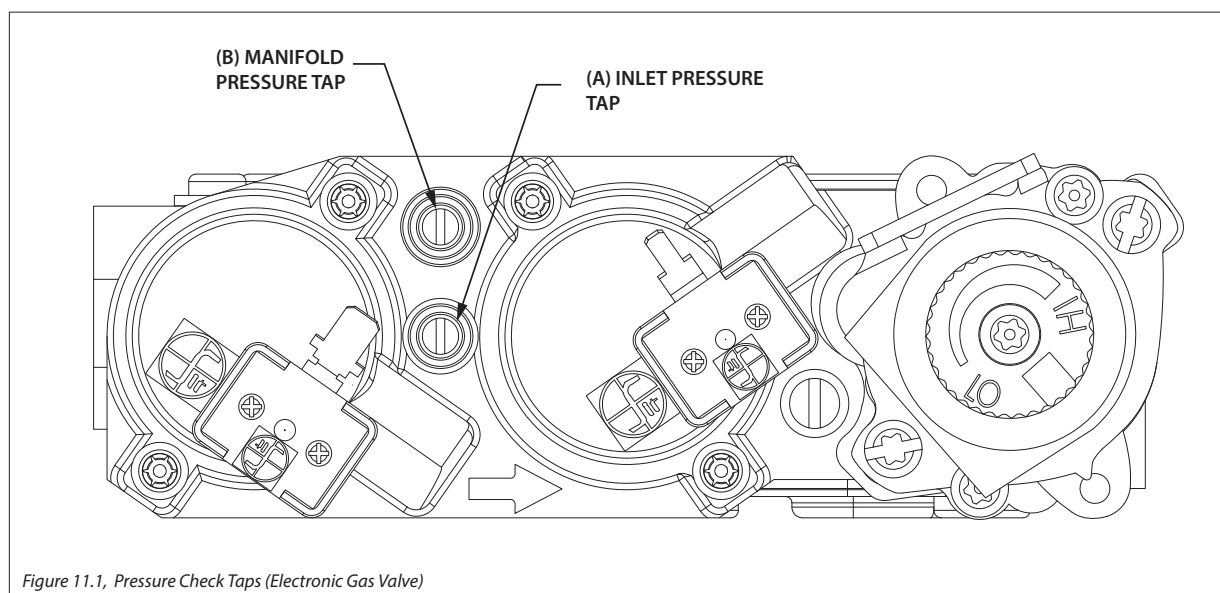

Figure 11.1, Pressure Check Taps (Electronic Gas Valve)
1. Loosen the inlet (IN) pressure tap by turning screw counter-clockwise. See (A) in Figure 11.1.
3. Set IPI/CPI rocker switch to CPI (ON).
7. Disconnect hose and tighten the inlet (IN) pressure tap by turning screw clockwise. Screw should be snug. Do not over
2. Loosen manifold (OUT) pressure tap by turning screw counter-clockwise. See (B) in Figure 11.1.
4. Set IPI/CPI rocker switch to CPI (ON).
8. Attach the manometer to the manifold pressure tap (B) to verify it is completely sealed. The manometer should read no pressure when pilot and burner are on.